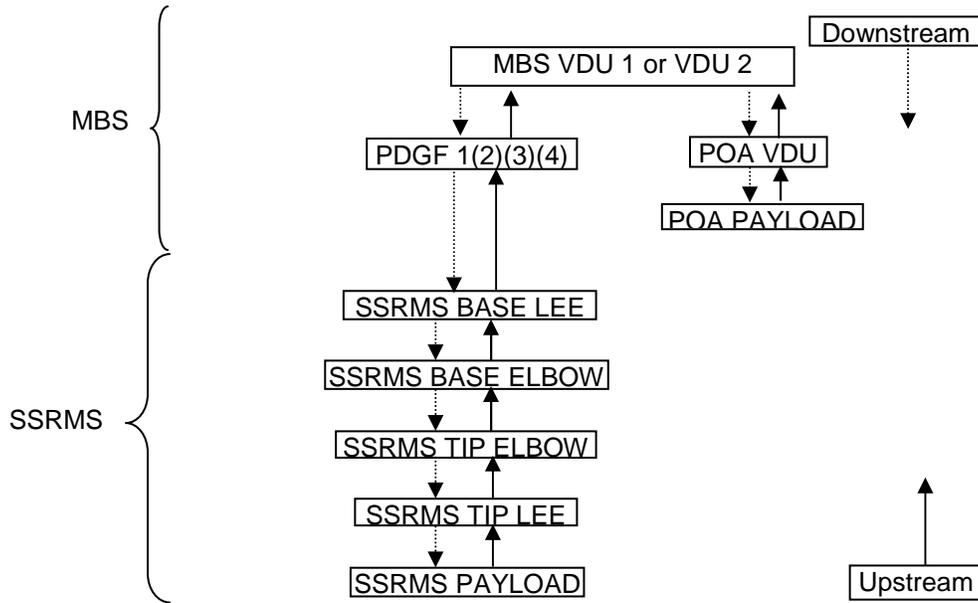

Figure 1.- Downstream vs. Upstream.
- ① Unless otherwise indicated, all displays in this procedure are on the PCS.
- ② This block contains some Ground-only telemetry verification.
- ③ OCS will only announce the 'R6C - ..... Pass Thru (Regen) Sync 1(2) Err' when a SWEP is issued.
- ④ Reference figures 1 and 2 for description of upstream/downstream, and Sync path.
- ⑤ Do not command MBS and SSRMS VDUs to switch Sync channels with the same command. Due to SCR 26165 this will cause an OCS Fatal Failure.
④ Reference figures 1 and 2 for description of upstream/downstream, and Sync path.
⑩ In the future the failed Camera must always be powered first to ensure it receives the correct Camera address.